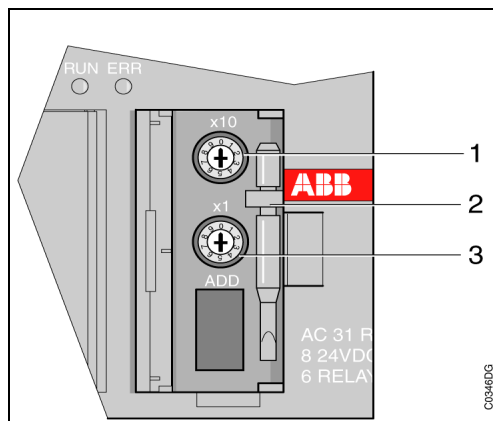

Figure 2-4: Magnification of item 9, cover removed
**Magnification of item 9, cover removed (see also Figure 2-4 on the previous page):**